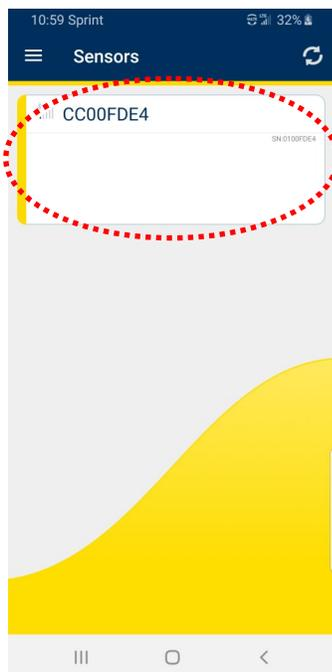

Figure 17
1. Select the new “unregistered” sensor (see figure 17).